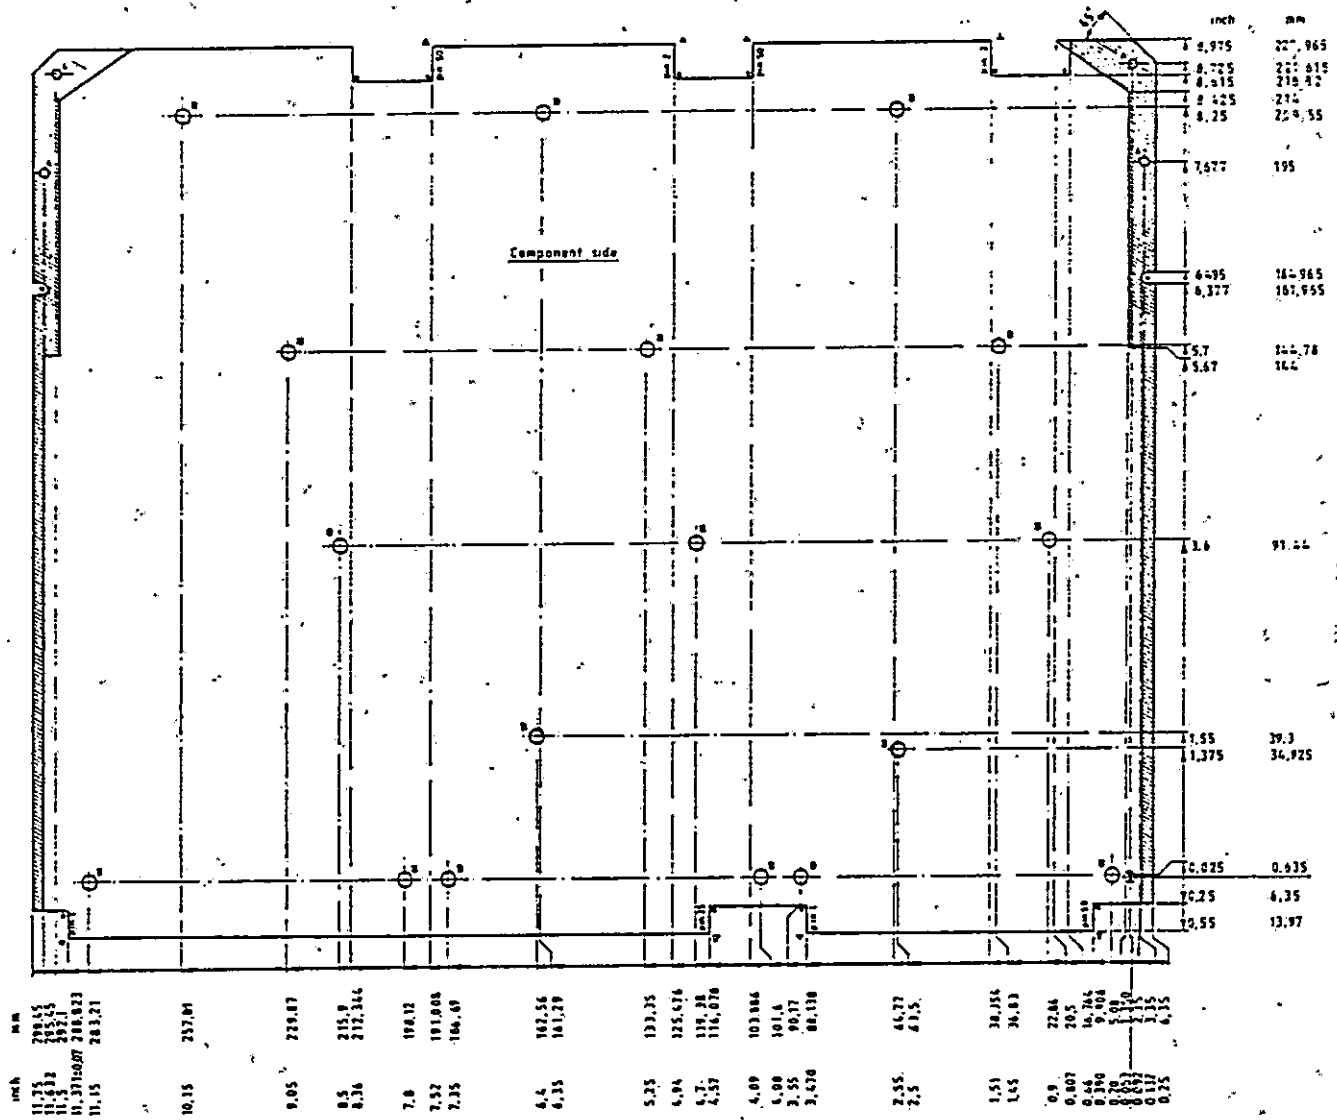

Fig. 4
Fig. 4 shows the outline of the (MP)2 board.